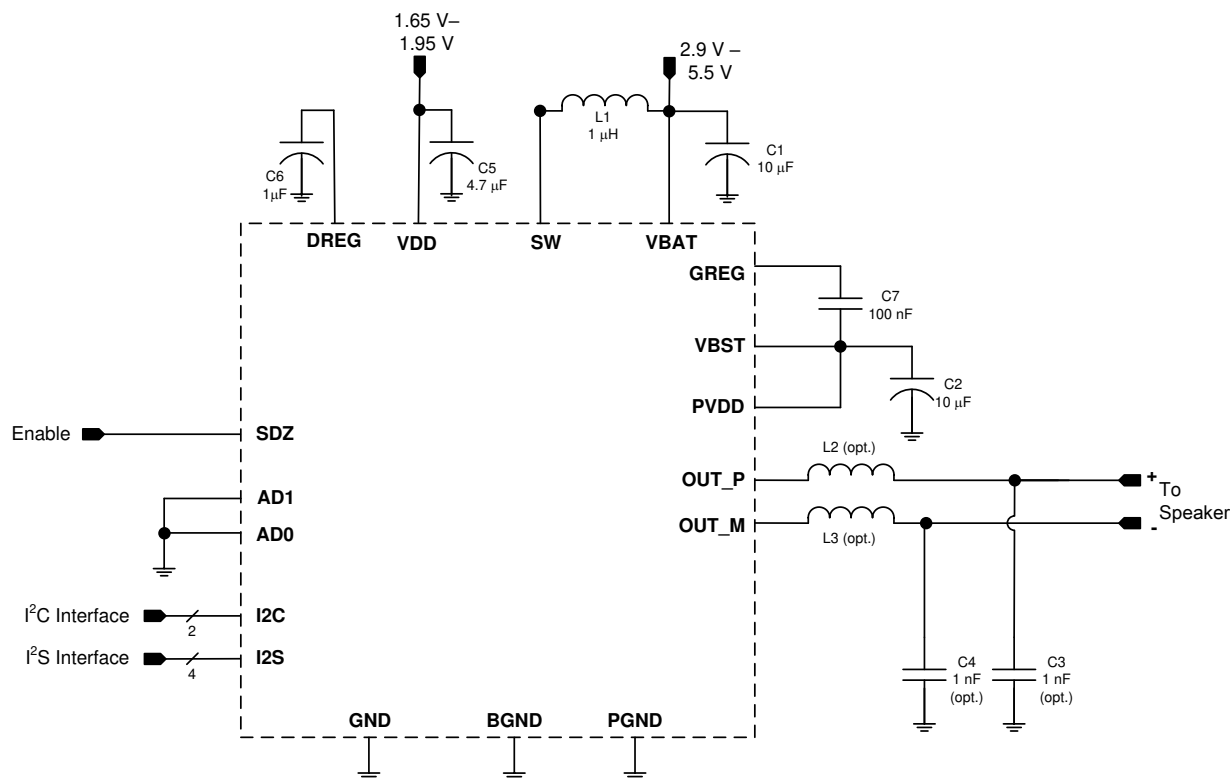

Figure 50. Typical Application - Digital Audio Input
The boost converter requires three passive devices that are labeled L1, C1 and C2 in Figure 50 and whose specifications are provided in Table 272. These specifications are based on the design of the TAS2110 and are necessary to meet the performance targets of the device. In particular, L1 should not be allowed to enter in the current saturation region. The saturation current for L1 should be > ILIM to deliver Class-D peak power.
The system designer may want to include passive devices on the Class-D output . These passive devices that are labeled L2, L3, C3 and C4 in Figure 50 and their recommended specifications are provided in Table 272. If C3 and C4 are used, L2 and L3 must also be installed, and C3 and C4 must be placed after L2 and L3 respectively to maintain the stability of the output stage.
The boost supply (VBAT) and associated passives need to be able to support the current requirements of the device. By default, the peak current limit of the boost is set to 4 A. Refer to Table 86 for information on changing the current limit. A minimum of a 10 μ F capacitor is recommended on the boost supply to quickly support changes in required current. Refer to Figure 50 for the schematic.
- Use supply decoupling capacitors as shown in Figure 50 and described in Power Supplies.